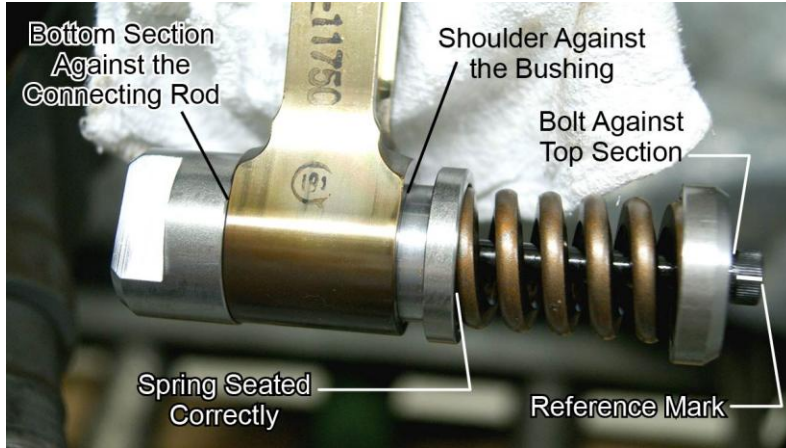
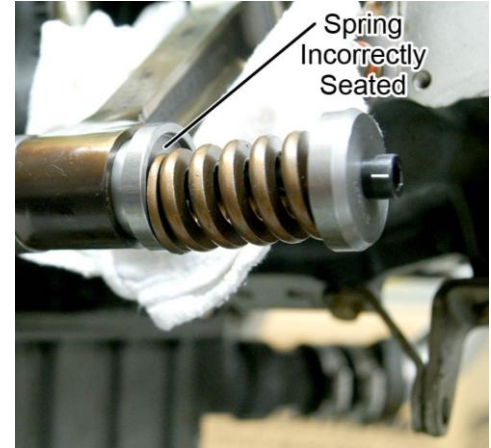

Figure 7
Figure 8
- The spring is seated correctly in the tool as shown in Figure 7. Figure 8 shows **incorrect** seating of the spring.
6. Use a marker to make a reference mark on the bolt head (Figure 7) to ensure an accurate count of the required number of turns during the procedure.